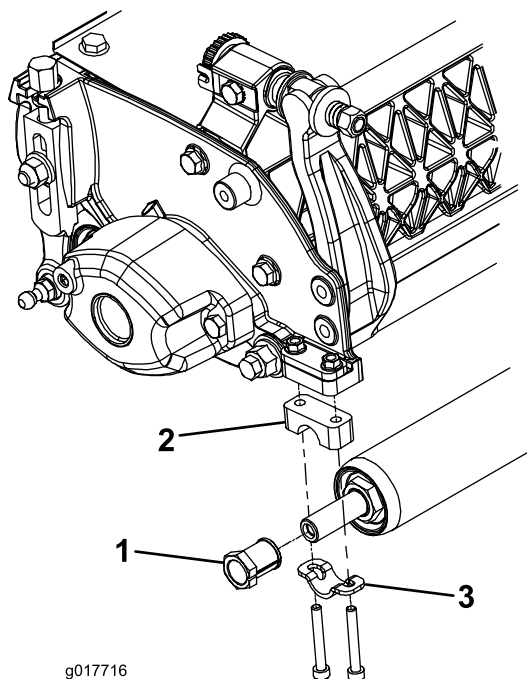

Figure 2
3. Lightly tap the shaft adjuster onto the roller shaft (Figure 2).
4. Loosely mount the shaft adjuster and roller shaft to the side plate mounting flange with a new roller spacer, new shaft retainer and previously removed shim, screws, and nuts (Figure 2).